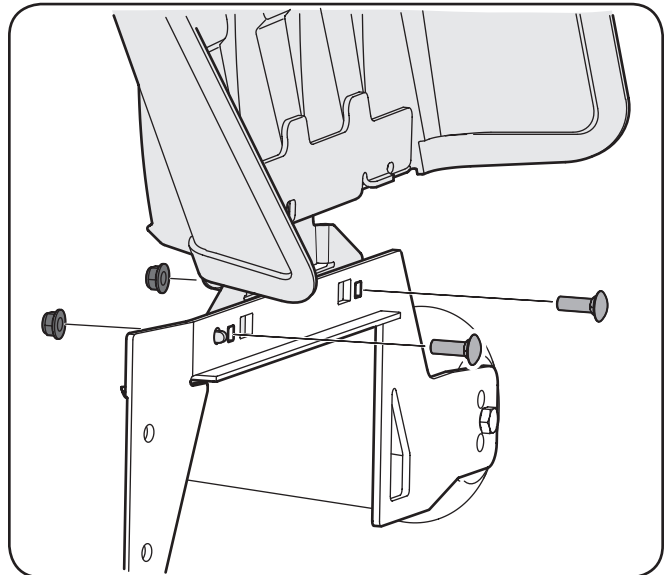

Figure 3-5
1. Remove the carriage screws and flange lock nuts installed on the mounting bracket on the deck. See Figure 3-5.
2. With the previously removed hardware, install the chute deflector on the deck as shown in Figure 3-5.